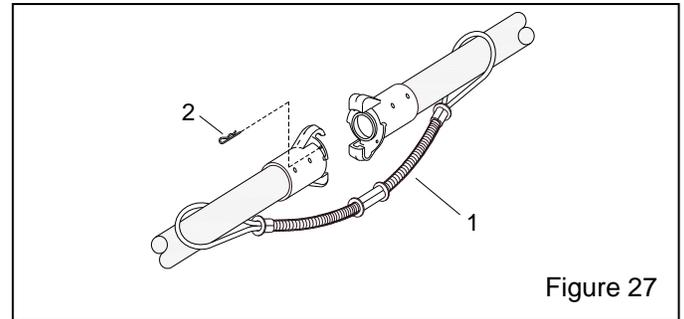

Figure 27
**8.2 Hose-Safety Accessories - Figure 27**
**NOTE: Spring-lock pins are affixed to nylon couplings. When connecting two nylon coupling together, make sure the coupling lock pins are at 180 degrees** (Pins should enter the open hole of the adjoining coupling.) One lock pin, as shown in Figure 27, is used when connecting a nylon coupling to a metal coupling, and two lock pins are used when connecting two metal couplings together.